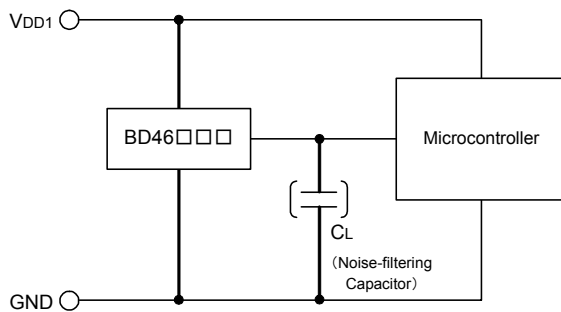

Fig.19 CMOS Output Type
CASE2: the power supply of the microcontroller (VDD1) is same as the power supply of the reset detection (VDD1). Use CMOS output type (BD46□□□G) or open drain output type (BD45□□□G) attached a load resistance (RL) between the output and VDD1. (As shown Figure 19)